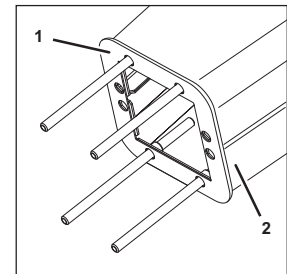

Fig. 14
7. Remove the gasket (Fig. 14/1) on the stand (Fig. 14/2) of the unit.